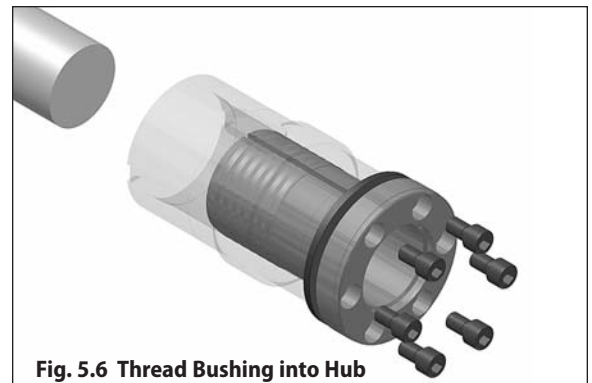

Fig. 5.6 Thread Bushing into Hub
Step 5 – Carefully thread the Taper-Grip® bushing into the hub of the speed reducer or gearmotor until the thrust collar solidly engages the unit hub surface and the bushing flange (see Fig. 5.6). **Caution: Do not cross-thread. Bushing should thread easily into hub.**